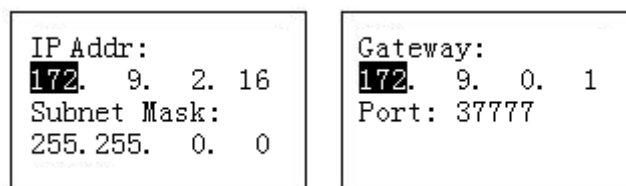

Figure 2-5
- When DHCP is disabled, you can manually input keyboard IP address, subnet mask, gateway, port(Default setup is 37777) and etc. Please set according to your actual situation. See Figure 2-5.